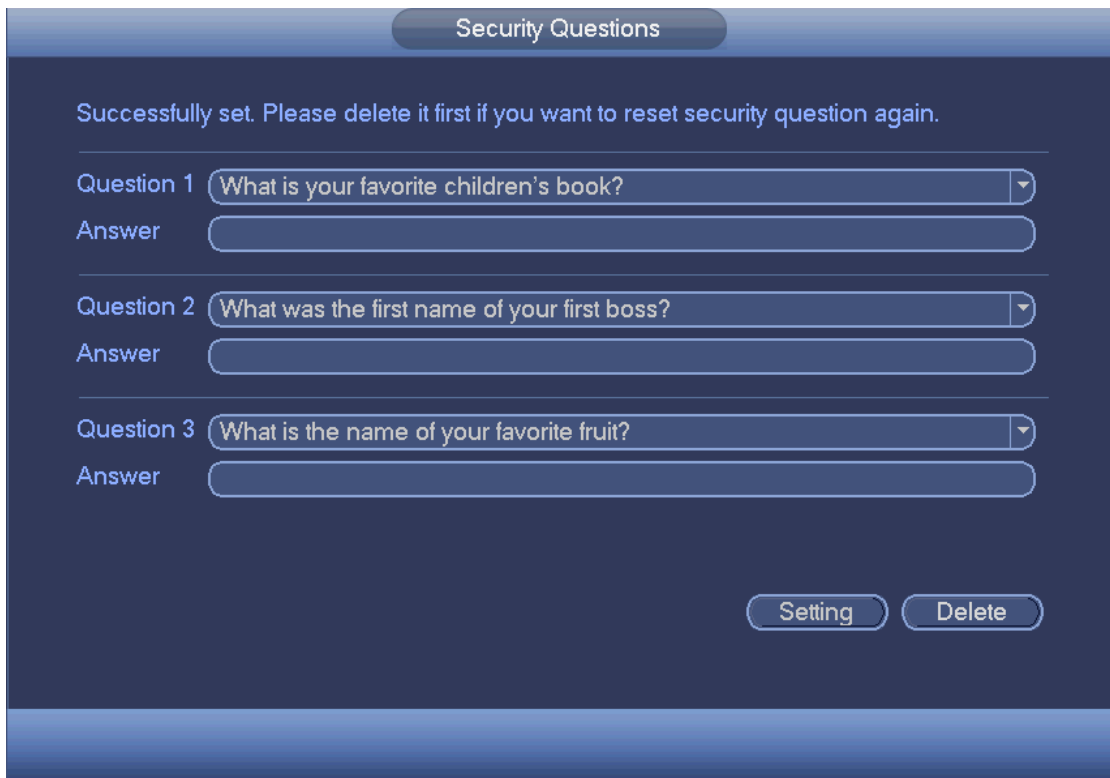

Figure 4-209
Step 1 Click Security question, enter the following interface. See Figure 4-209.